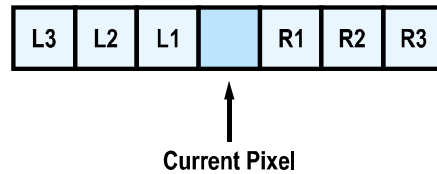

Figure 9-9 Location of Defect Pixel to be corrected
3. Execute the Flat Field Data Save parameter to save the generated Flat Field data into the non-volatile memory. When the scaled down Flat Field data are used for correction, they are expanded and applied with a Bilinear Interpolation as shown in the Figure 9-9.